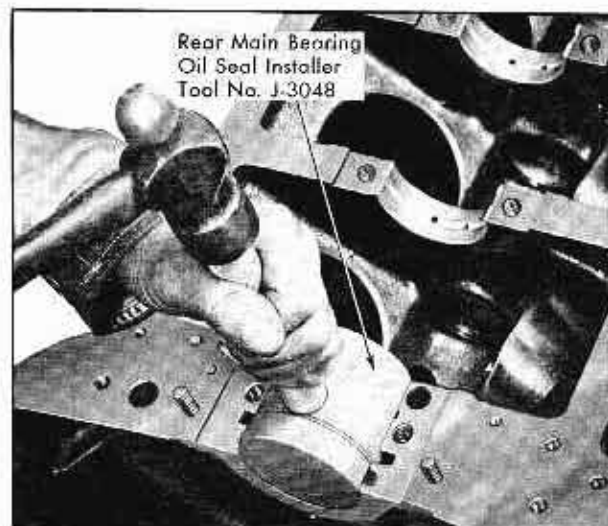

Fig. 10-28 Installing Rear Main Bearing Oil Seal
2. Install a length of new packing in groove in crankcase and press up into place, using Rear Main Bearing Oil Seal Compressor, Tool No. J-3048, and a hammer, as shown in Fig. 10-28.